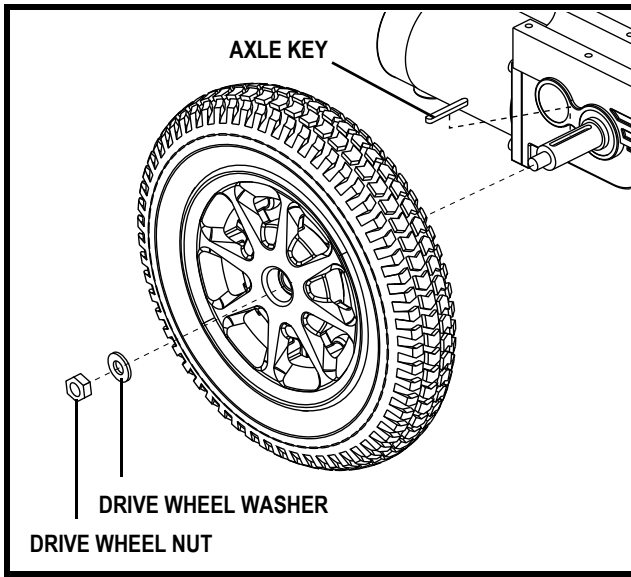

Figure 32. Drive Wheel Removal
4. Use a socket spanner to remove the drive wheel nut and washer from the axle. See figure 32.